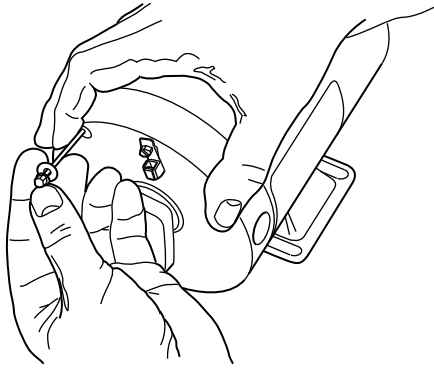
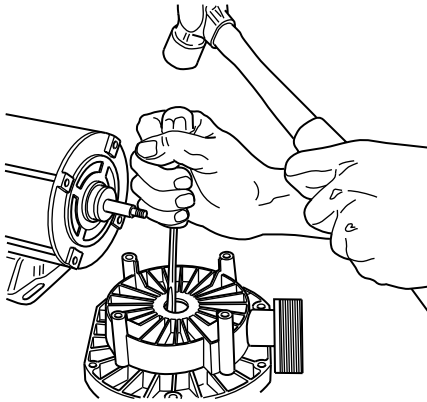

Figure 4
Figure 5
- Carefully remove four motor throughbolts from seal plate (Figure 4); remove seal plate and use a screwdriver to tap ceramic seat out from the rear (Figure 5). Do not damage seal cavity in seal plate.